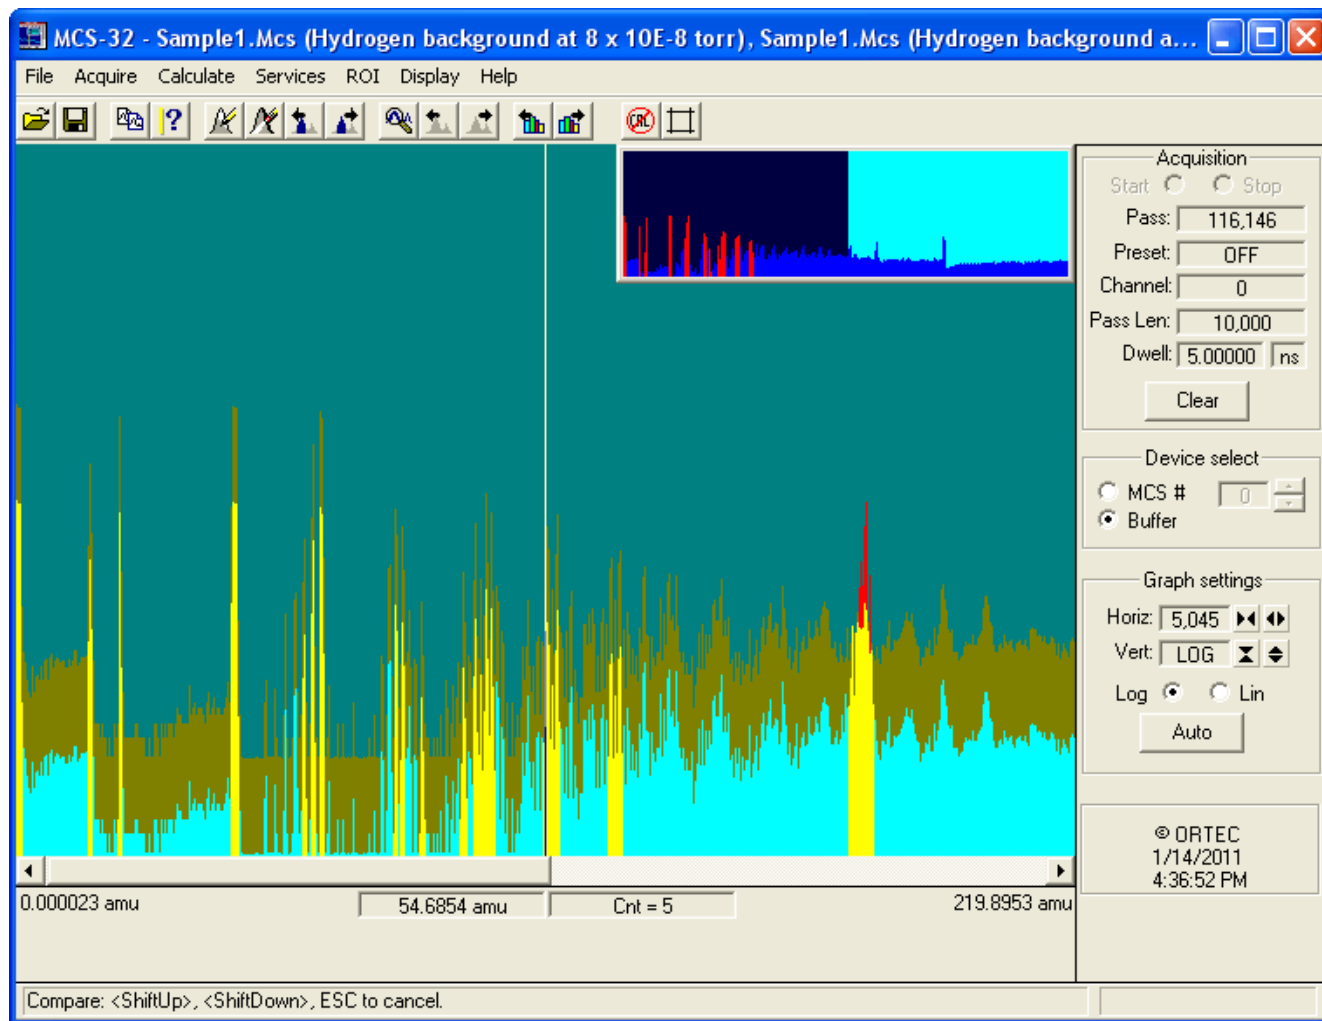
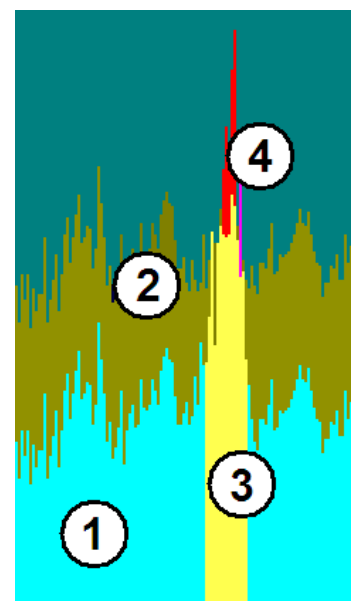

Fig. 24. Compare Mode Screen.
Fig. 25. Spectrum Colors in Compare Mode.
This function displays a disk spectrum along with the spectrum in the buffer so that the two can be visually compared. When **Compare Data...** is selected, a standard file-open dialog opens, allowing you to select the desired spectrum file. Once the Compare file is opened, the Expanded Display Window shows both spectra, as illustrated in Fig. 24.
Figure 25 is taken from Fig. 24. In this illustration, the starting spectrum is displayed in color (1), the Compare spectrum is shown in color (2), the starting spectrum's ROIs are marked in color (3), and the portion of the starting spectrum that exceeds the Compare spectrum is indicated by color (4). These colors — called **Foreground**, **Compare**, **ROI**, and **Combine**, respectively — are chosen on the **Colors** dialog discussed in Section 6.6.9.6.